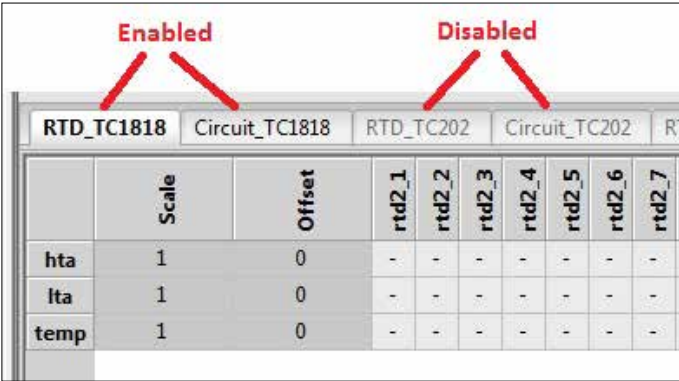

Figure 16: Trend Plotter - Tabs
1. From the tree view select an item. This will enable related tabs on the bottom right of the application (Figure 16).